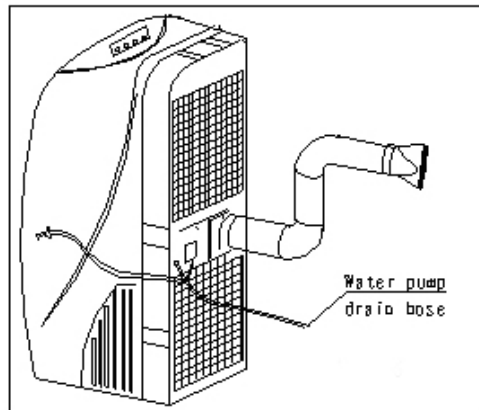

Fig.8
- 4) Make sure the water pump drain hose is correctly installed, as Fig.8 .